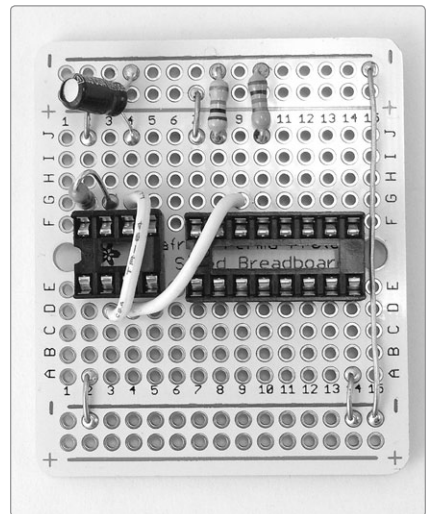

FIGURE 16-13: Adding the 1.5 μF electrolytic cap
- Step 14** Now for the 1.5 μF electrolytic cap, which connects pin 5 on the 8-pin socket to the ground. Electrolytic caps are polarized, so start by identifying the negative leg, which is aligned with the stripe on the cap's body. Run this negative leg to the top ground rail and the positive leg to pad 4J (see Figure 16-13). Solder both legs.